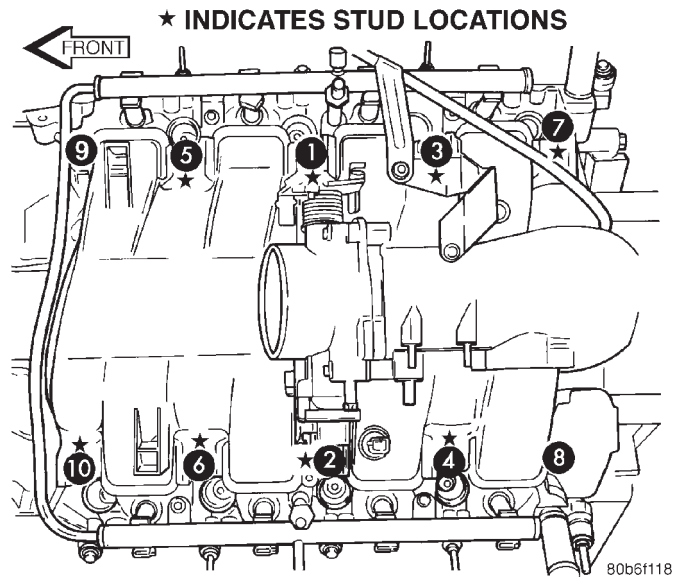

Fig. 35 Intake Manifold Tightening Sequence
(11) Disconnect left and right radio suppressor straps.
(12) Disconnect and remove ignition coil towers.
(13) Remove top oil dipstick tube retaining bolt and ground strap.
(14) Bleed fuel system. Refer to Group 14, Fuel System for bleeding procedures.
(15) Remove fuel rail.
(16) Remove throttle body assembly and mounting bracket.
(17) Drain cooling system below coolant temperature level. Refer to Group 7, Cooling System for procedure.
(18) Remove coolant temperature sensor. Refer to Group 14, Fuel System for component location.
(19) Remove cowl to hood seal. Refer to Group 23, Body for component location and procedure.
(20) Remove right side engine lifting stud.
(21) Remove intake manifold retaining fasteners, in reverse order of tightening sequence (Fig. 35).
- (1) Install intake manifold gaskets.
- (2) Install intake manifold.
- (3) Install intake manifold retaining bolts and tighten in sequence shown in (Fig. 35) to 12 N·m (105 in. lbs.).
- (4) Install left and right radio suppressor straps.
- (5) Install throttle body assembly.
- (6) Install throttle cable bracket.